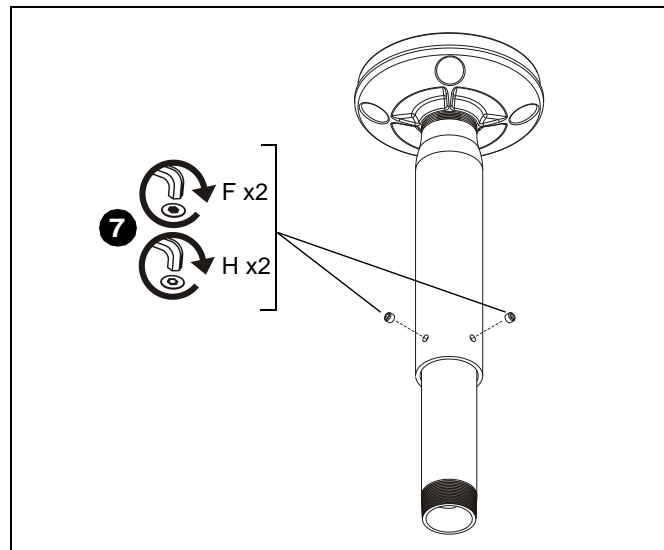

Figure 4
7. Install and tighten set screws (standard (F) or security (H), as desired) using key (G) (See Figure 4).